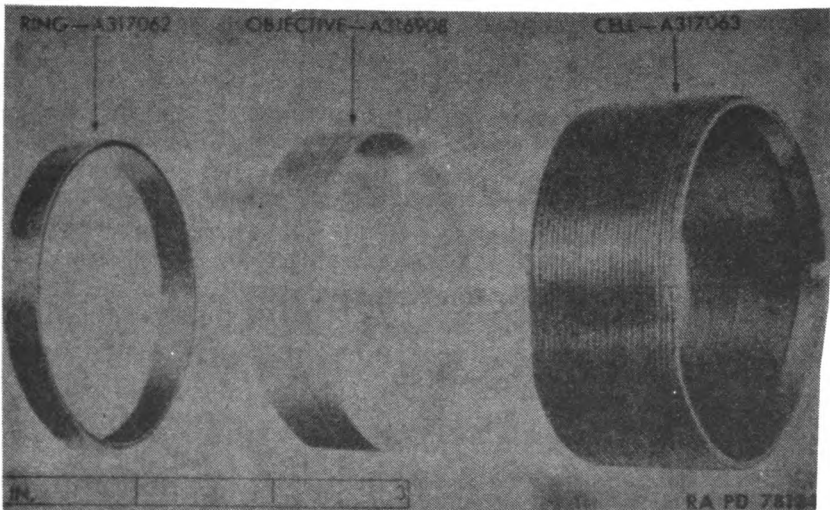

Figure 19—Observation Telescope M49—Objective Assembly B180756 Disassembled
(3) Remove the retaining ring A317062 (fig. 19) from the objective assembly. Place a piece of lens tissue paper on both sides of